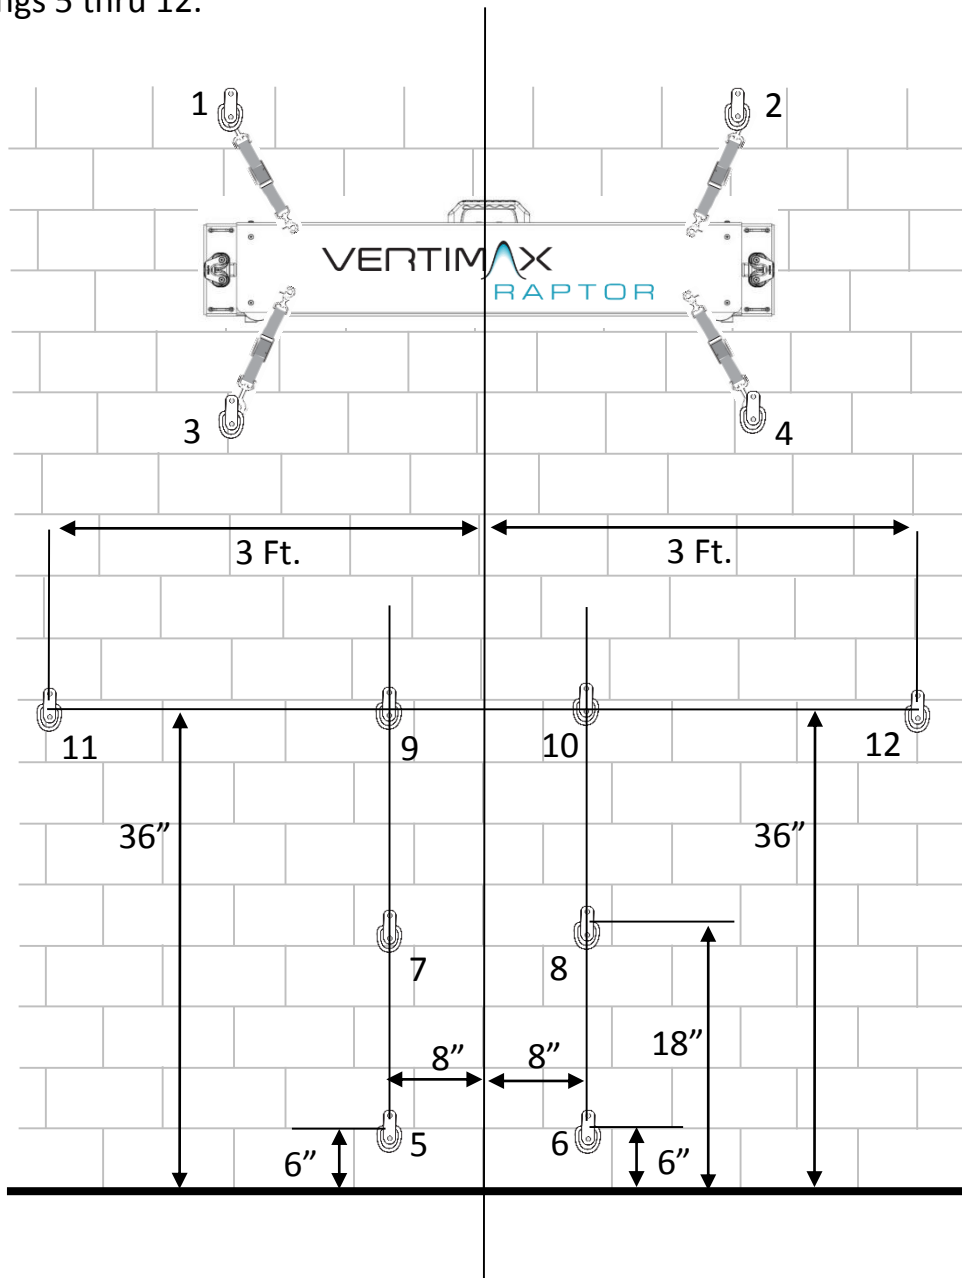

Figure 17
Step 7 – Repeat the previous steps 1-6 to mount the remaining 8 D-Rings to the wall. Reference Figure 17 for the locations to mark, drill and then fasten the D-Rings to the wall.
Step 7 – If you choose to mount the Raptor unit horizontally, reference Figure 17 below for suggested locations for the remaining 8 D-Rings which are diagramed for placement on the cinder block wall. Use the marking and drilling procedures outlined in Steps 1-8 to mark and drill mounting holes for D-Rings 5 thru 12.